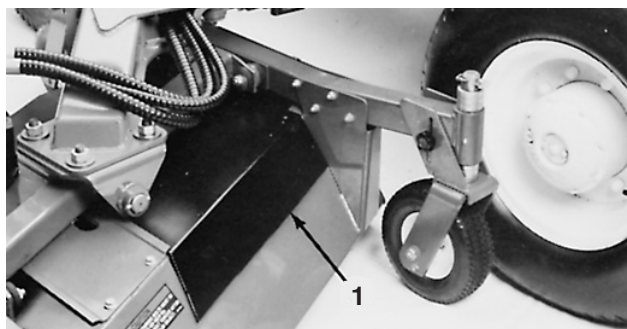

Figure 60
2. Remove the inner deck pulley cover (Fig. 60).